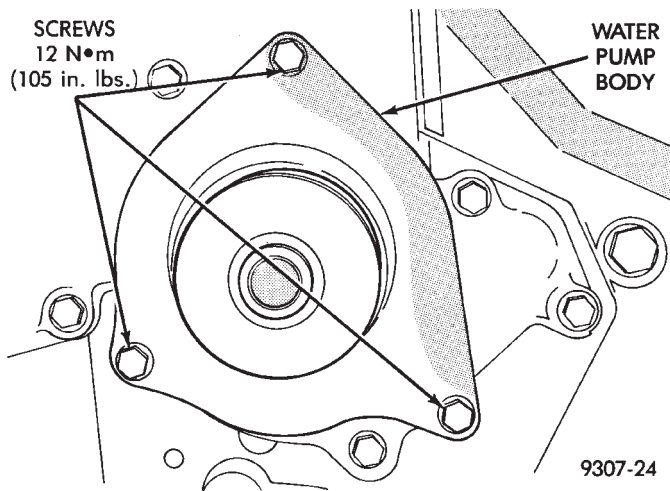

Fig. 3 Water Pump—3.5L Engine
- (3) Remove mounting bolts.
- (4) Remove pump from engine (Fig. 3).